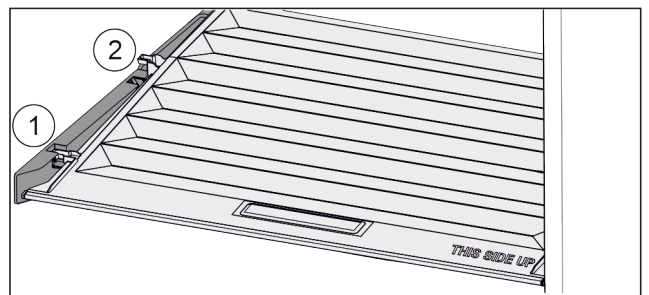

Fig. 109
- ▶ Pull the lid up at the front to the opening in the retaining parts Fig. 109 (1).
- ▶ Lift from the back and pull it up and out Fig. 109 (2).